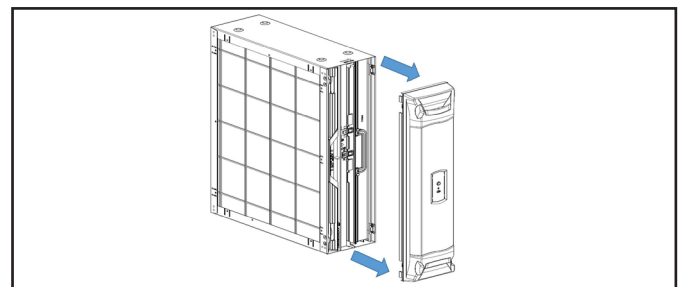

Figure 10 Removing Door Assembly
Step 1: Remove the Door Assembly from Whole Home Air Cleaner by pulling away from the unit assembly. Place on the flat and clean working surface with interior components facing up. See Figure 10.
Handle the door only by using the handles on the front of the door. Grasp the door by the handles as depicted in Figure 10 to remove and replace the door. Do not handle the door on the edges. Metal edges may be sharp and could result in injury if the door is not handled properly.